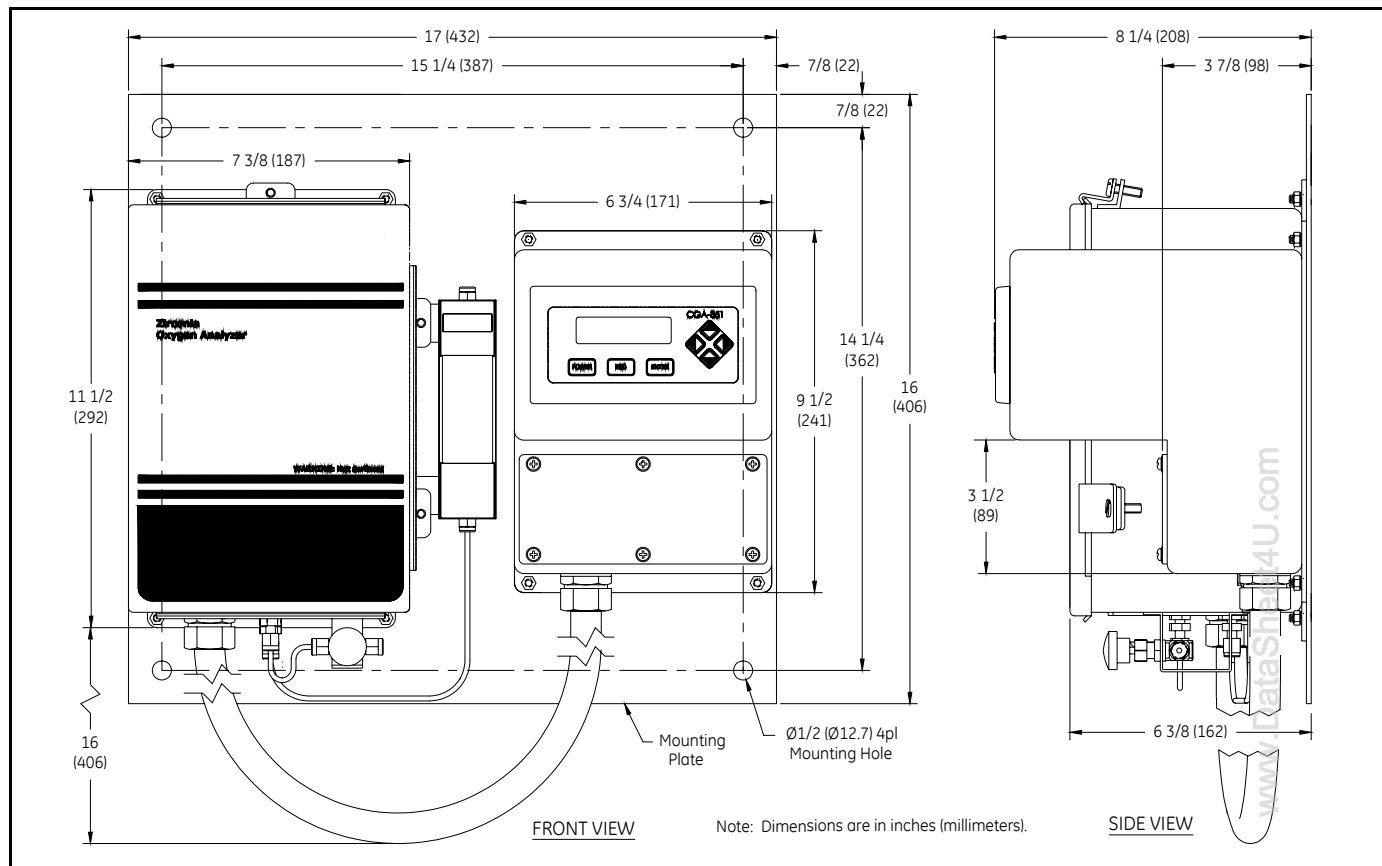

Figure 2-1: Model CGA 351 Mounting Dimensions
Refer to Figure 2-1 on page 2-9, and complete the following steps to mount the CGA 351:
2. Using the mounting dimensions shown in Figure 2-1 on page 2-9, locate and prepare four (4) mounting holes or two (2) horizontal mounting rails on the vertical surface.
3. Secure the system to the mounting surface with four (4) sets of mounting hardware. Be sure that the enclosures are in a vertical position, with the inlet/outlet connectors on the bottom.
See Figure 2-1 on page 2-9, and complete the following steps to connect the sample system to the analyzer: